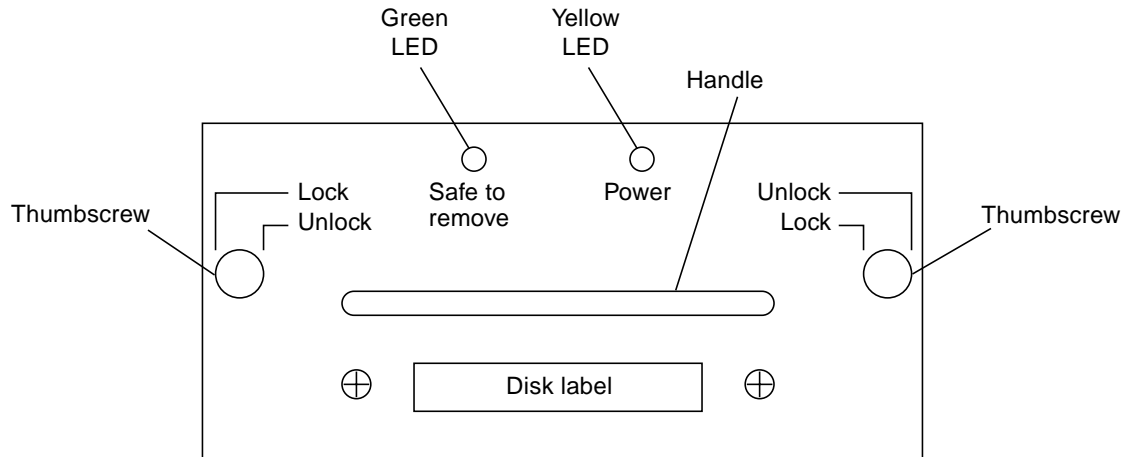

FIGURE 4-4 9-Gbyte Disk Drive
FIGURE 4-4 shows a 9-Gbyte disk drive. The two LEDs on the faceplate of each drive indicate the following:
2. **Make sure the thumbscrews on the front of the disk drive are turned completely counterclockwise.** See FIGURE 4-4.